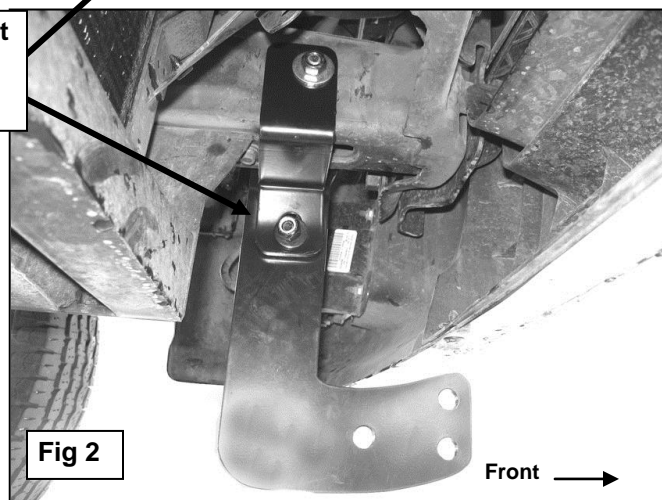

Fig 2
- Position the driver side Mounting Bracket over the factory bolt and secure with the factory hex nut. Line up the slot in the side of the Mounting Bracket with the factory hole through the frame, **(Figure 1A & 1B)**. Select the driver side Support Bracket and position it up to the back side of the frame as shown in **Figure 2**. Check for clearance and trim the plastic spoiler as required to clear brackets. Secure the Mounting Bracket and Support Bracket to the frame at the upper mounting position with the included (1) 12mm x 100mm Hex Bolt, (2) 12mm Flat Washers and (1) 12mm Nylon Lock Nut, **(Figure 2)**. Bolt the Support Bracket to the Mounting Bracket at the lower mounting position with (1) 12mm x 30mm Hex Bolt, (2) 12mm Flat Washers and (1) 12mm Nylon Lock Nut. Do not tighten hardware at this time.